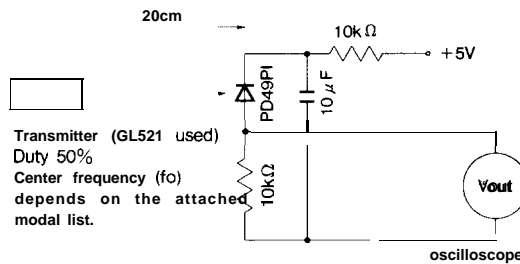
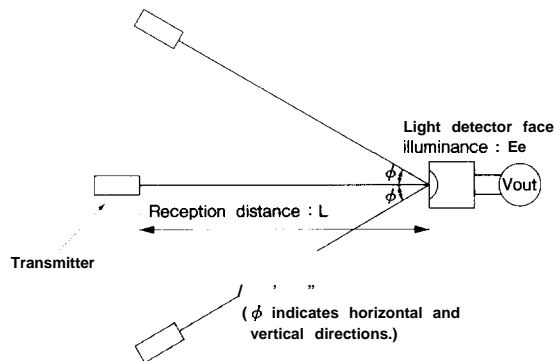

Fig. 1. Transmitter
Fig. 2. Standard optical system
*3 The burst wave as shown in the following figure shall be transmitted by the transmitter shown in Fig. 1
Using the transmitter shown in Fig. 1, the output signal of the light detecting unit is good enough to meet the following items in the standard optical system in Fig. 2.
When $L = 0.2$ to 8m , $E_e < 10\text{ lx}$ and $\phi = 0^\circ$ in Fig. 2, the output signal shall meet the electrical characteristics in the attached list.
When $L = 0.2$ to 6m , $E_e < 10\text{ lx}$ and $\phi \leq 30^\circ$ in Fig. 2, the output signal shall meet the electrical characteristics in the attached list.
When $L = 0.2$ to 4m , $E_e \leq 300\text{ lx}$ and $\phi = 0^\circ$ in Fig. 2, the output signal shall meet the electrical characteristics in the attached list.